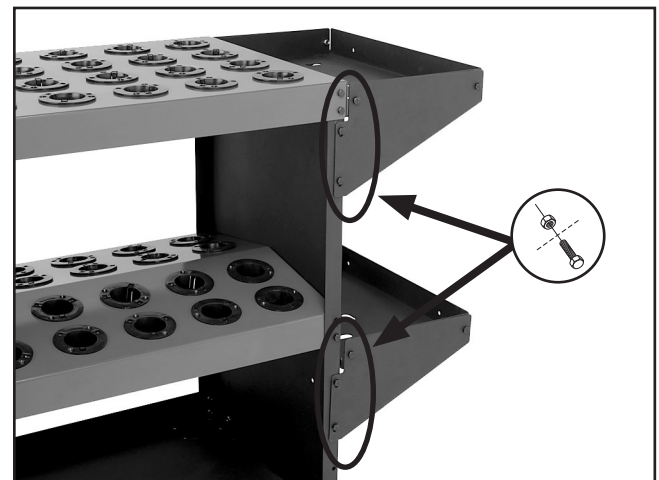

Figure 10. Side shelf assemblies installed.
- Attach the side shelf assemblies to the side of the cart opposite the handle with 8 hex bolts and lock nuts, as shown in **Figure 10**. Fully tighten these fasteners.